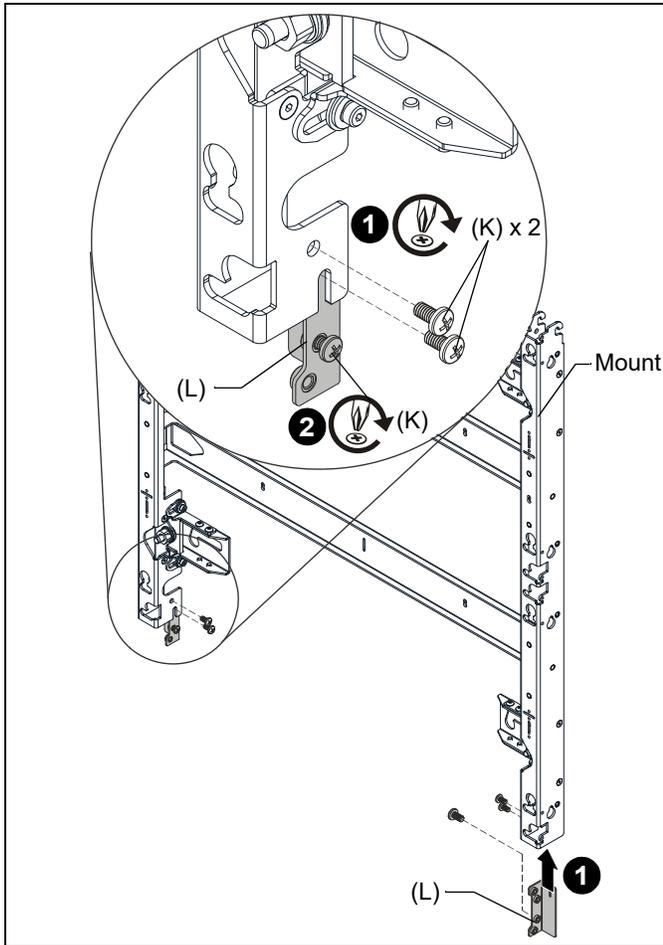

Figure 2
1. Slide the vertical connector (L) up from the bottom of the mount, and attach with two 1/4-20 x 1/2" Phillips pan head screws (K) per vertical connector. (See Figure 2)
2. Partially install one 1/4-20 x 1/2" Phillips pan head screw (K) in the upper screw hole at the bottom of each vertical connector (L). (See Figure 2)